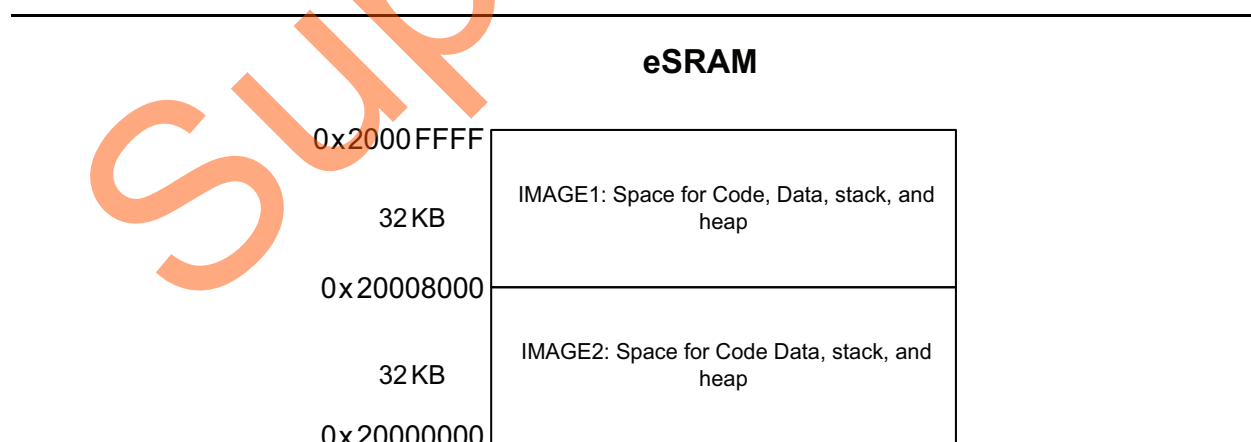
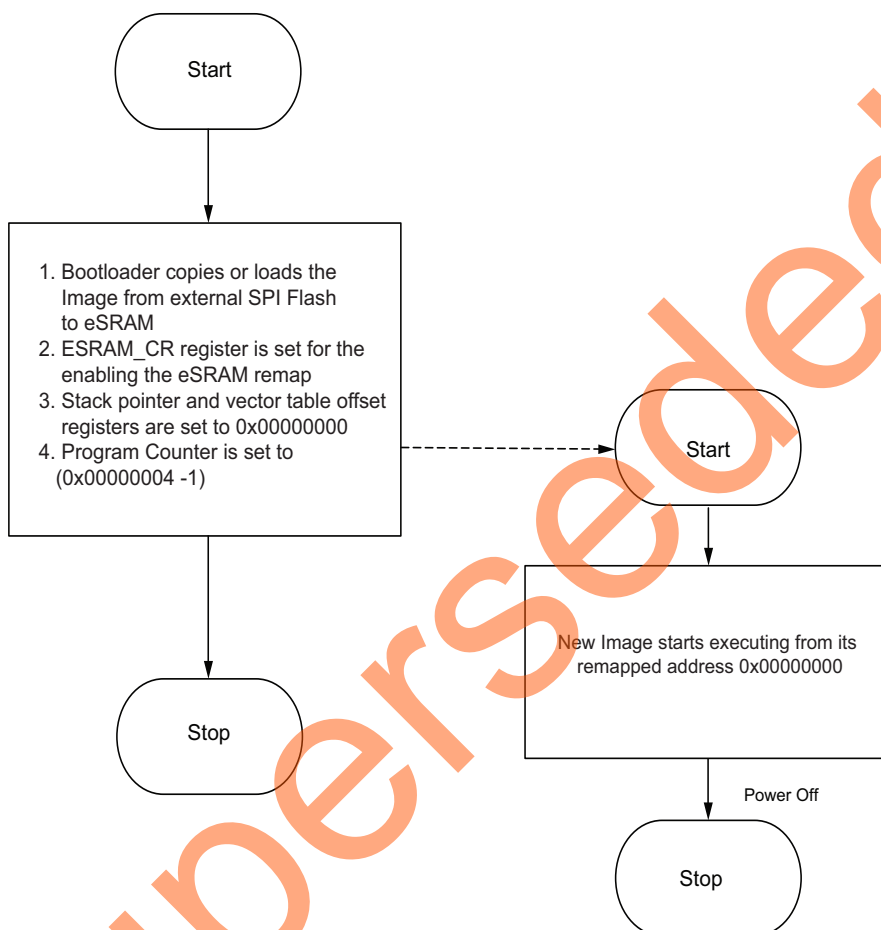

Figure 11 • Example Scenario of Multiple Executable Images in eSRAM
Figure 13 • Logic for Moving Execution Control to New Image in eSRAM with Remapping
Figure 11 shows the example scenario of the executable images in eSRAM regions.
The above scenario, shown in Figure 11, describes two images which can be remapped to the bottom (0x0000_0000) of the Cortex-M3 processor or can be made executable for the Cortex-M3 processor. To create the independent executable images with required memory map, the linker scripts need to be created with required memory map. The linker scripts are provided in the "Appendix A: Design Files" section. Once the images are created for the required memory map in Production mode, these images are to be copied to an external memory like SPI Flash/eNVM, and are code shadowed by the bootloader to the eSRAM whenever it is required to execute the new images.
- **With Remapping:** In this approach, the new image address can be remapped to the bottom (0x0000_0000) of the Cortex-M3 processor by using the ESRAM_CR registers. As the new image address is remapped to bottom (0x0000_0000) of the Cortex-M3 processor code region the linker scripts take care of building the images from the bottom (0x0000_0000) code region. The eSRAM address must not be used instead offset address from zero has to be used in the linker scripts for this approach. This approach is explained in the flow chart shown in Figure 13.
For example, for the memory map of the different images explained in the Figure 11, the images are built with 0x00000000 as base address. If it is required to jump from the Image 2 to Image 1 then use the following steps (as explained in the Figure 13).